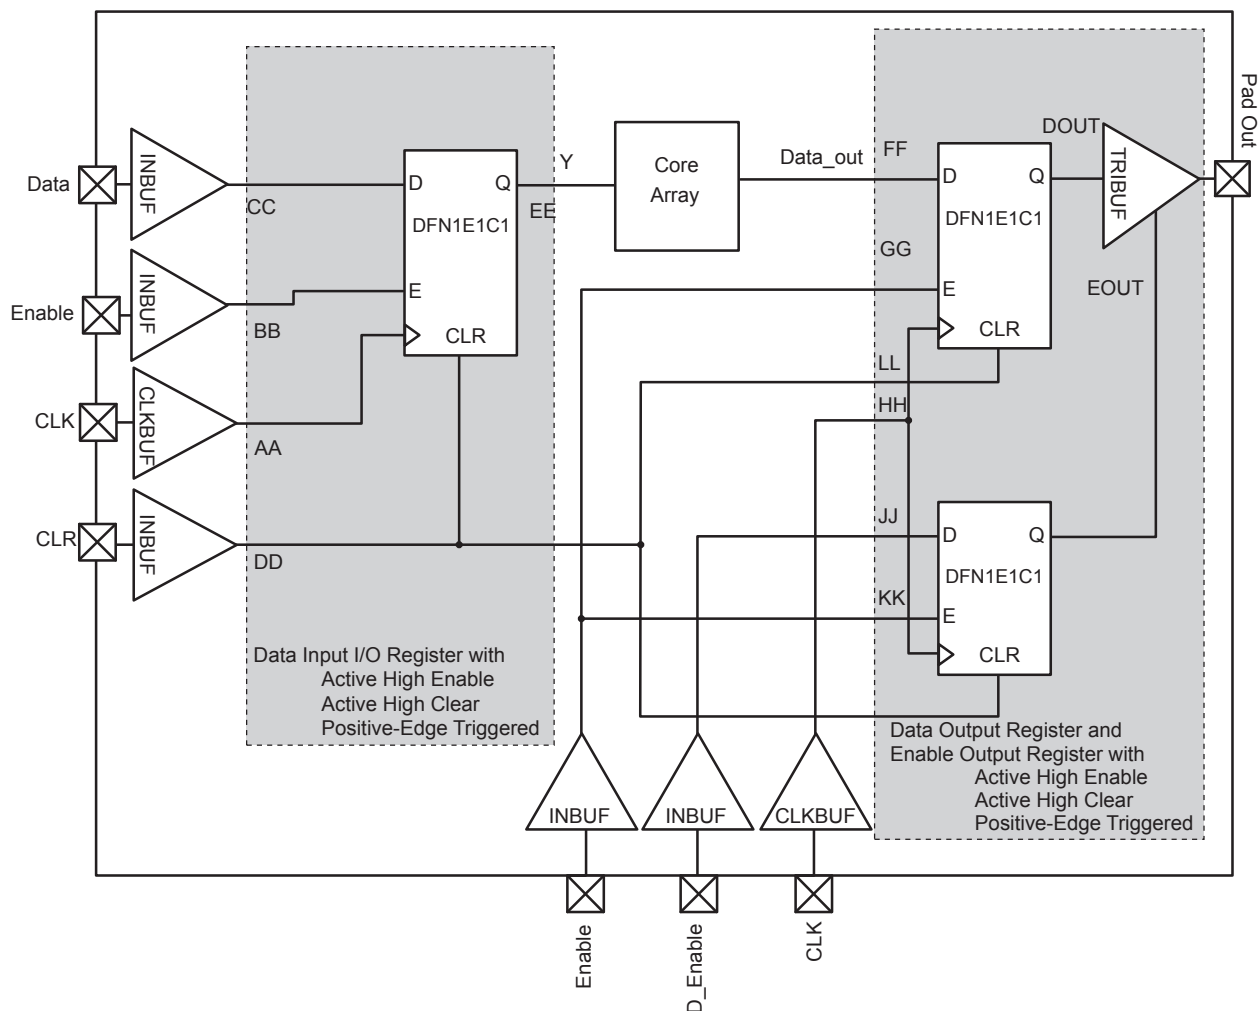

Figure 2-30 • Timing Model of the Registered I/O Buffers with Synchronous Enable and Asynchronous Clear
* See Figure 2-30 on page 2-94 for more information.